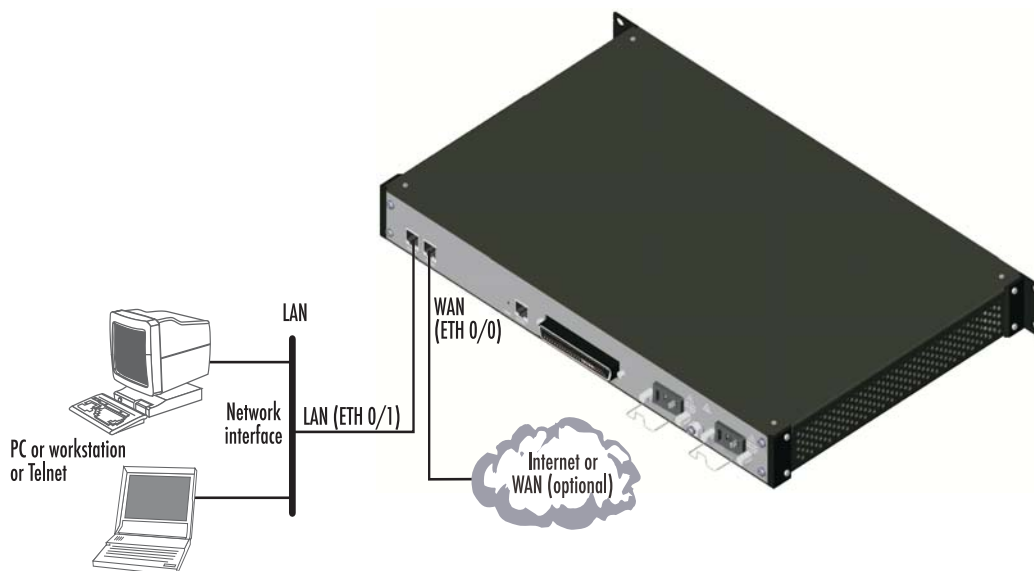

Figure 15. Connecting the SmartNode to the network
2. **Connecting the SmartNode to the network** (see figure 15). Refer to section “1. Configure IP address” on page 40 for details).